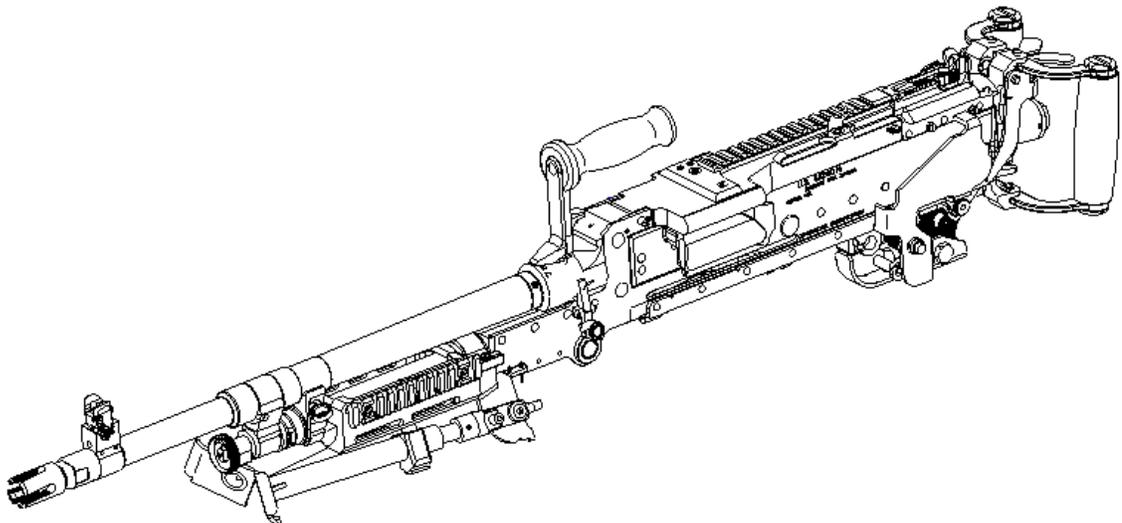

Figure 8
h. Reassembly (Figure 8).
- (1) Insert bolt and operating rod.
- (2) Manually cycle bolt and operating rod, checking for any sign of binding in the rearmost portion of its stroke. If binding is detected, code out the weapon.
- (3) Install trigger group, drive spring, and spade grips.
- (4) Insert barrel assembly fully into socket and push barrel release/carrying handle clockwise as far as it will go.
- (5) Push barrel release and rotate carrying handle and return to upright position.
- (6) Push carrying handle clockwise while counting the clicks. (Fewer than 2 clicks and more than 7 clicks indicate defective parts.)